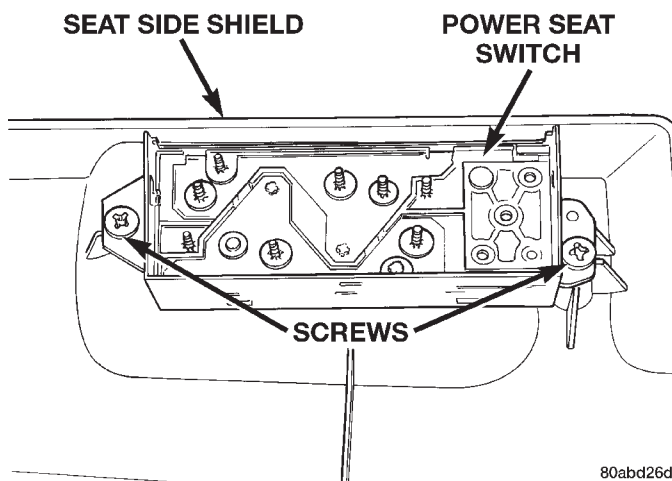

Fig. 4 Power Seat Switch Remove/Install - Typical
(1) Disconnect and isolate the battery negative cable.
(2) Remove the screw that secures the recliner lever to the recliner mechanism release shaft on the outboard side of the driver side front seat.
(3) Pull the recliner lever off of the recliner mechanism release shaft.
(4) Remove the three screws that secure the driver side seat cushion side shield to the outboard seat cushion frame.
(5) Pull the driver side seat cushion side shield away from the seat cushion frame far enough to access the power seat switch module wire harness connector.
(6) Gently pry the locking tabs of the switch away from the wire harness connector and carefully unplug the connector from the power seat switch module.
(7) Remove the seat cushion side shield and power seat switch module from the seat as a unit.
(8) Remove the two screws that secure the power seat switch to the inside of the seat cushion side shield (Fig. 4).